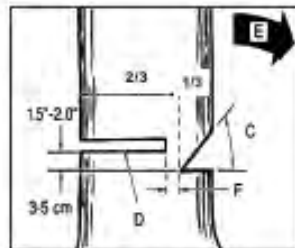

Fig.4
Make the felling cut (D) from the other side of the tree and 1.5 - 2.0 inches above the edge of notch (C) (Fig.4)